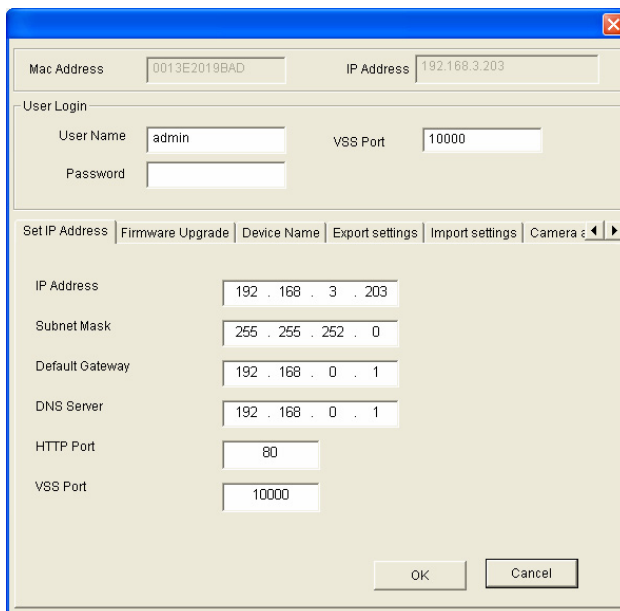

Figure 6-4
2. Double-click the camera in the list. Figure 6-4 appears.
1. In Figure 6-4, click the **Import Settings** tab. This dialog box appears.